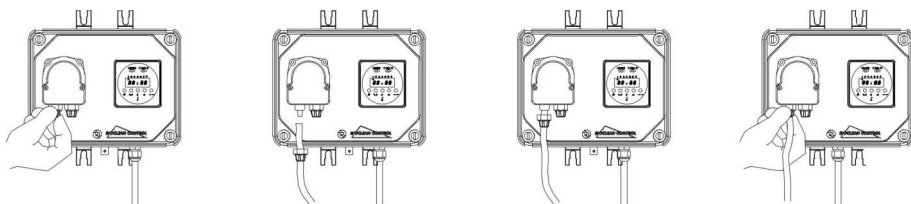

Fig. 4
d.- Slide the hoses over the connectors, pushing them right home, and then fix them with appropriate tube nuts (fig.4).